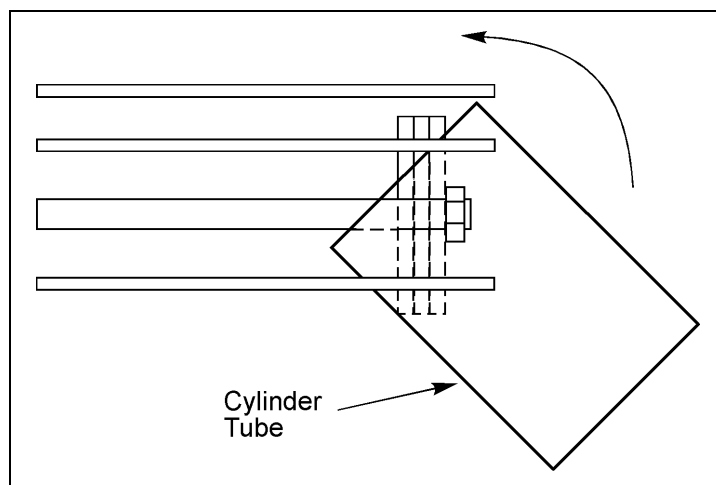

Figure 5 – Cylinder Tube Installation
8. Coat the piston seal (C11) and the inside of the cylinder tube (C13) with Dow Corning Molykote 44 grease. Slide the cylinder tube over the piston (C10). It will be easier to start the cylinder tube at a 45° angle, then rotate the cylinder tube onto the piston. See Figure 5.